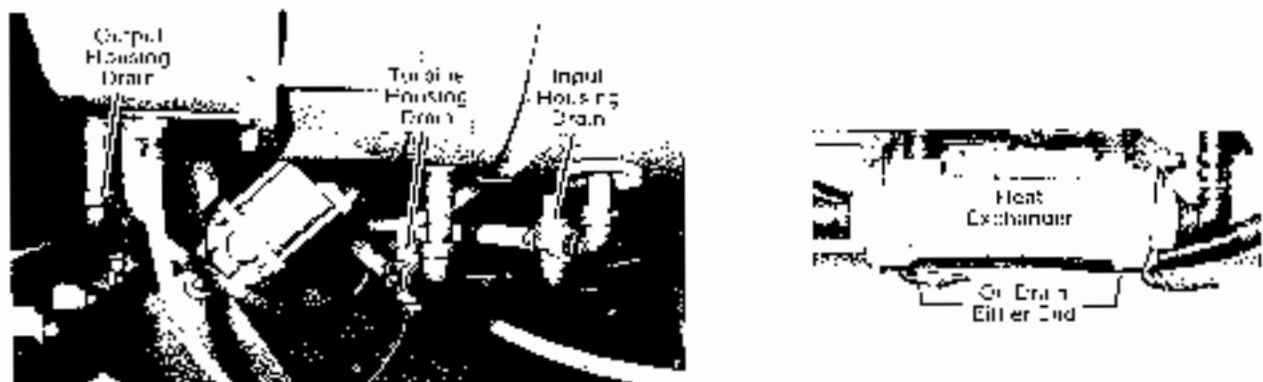

Figure 10 Converter and Heat Exchanger Drain Valves
1. Open the drain valve at each turbine housing (Figure 10).
2. Open the drain valve at each heat exchanger (Figure 10).